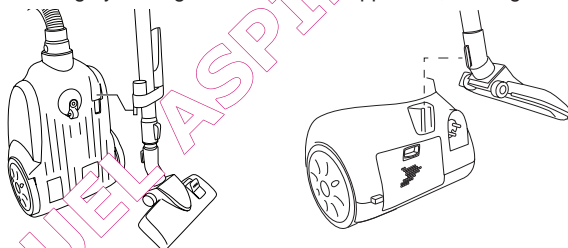

Figure 9 Storing the vacuum cleaner
3. Stand the vacuum cleaner upright. Retract the telescopic tube completely. An attachment slot for the telescopic tube is fitted to the bottom of the vacuum cleaner, next to the front castor (see Figure 9). Slide the bottom of the accessory bracket into the slot.